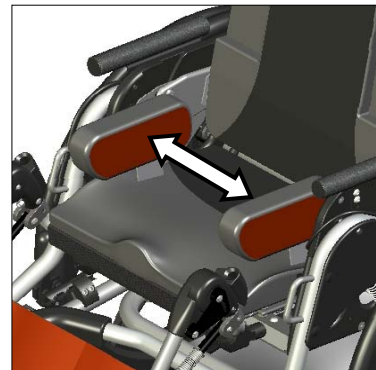

Figure 6: Hip Width Adjustment
2. Hip width can be adjusted by adding or removing layers of 1/4" foam from adductor covers (Fig. 6).